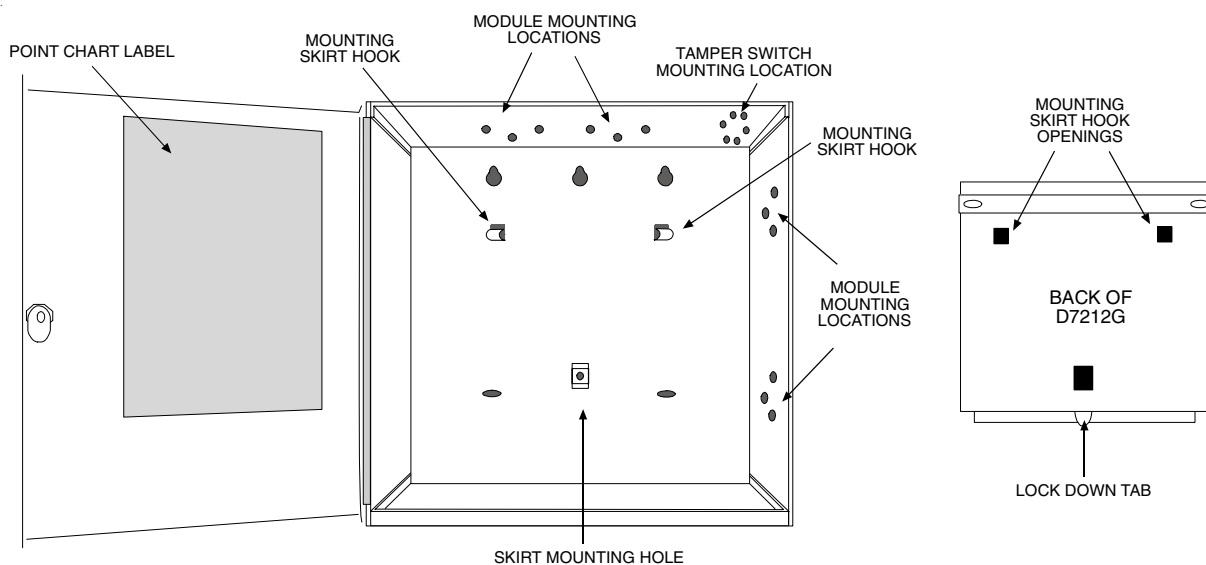

Figure 2: Enclosure Mounting
1. Mount the enclosure in the desired location. Use all five mounting holes. See *Figure 2*.
1. Place the assembly over the inside back of the enclosure, aligning the large rectangular openings of the mounting skirt with the mounting hooks of the enclosure. Slide the assembly down so it hangs on the hooks. See *Figure 2* on page 21.
Use the *D7212G Program Record Sheet* (P/N: 4998138542) to gather the information needed to fill out the point chart. Install the label on the enclosure door as shown in *Figure 2* on page 21. To avoid smearing the entries on the chart, use the label's peel off backing to press the label in place.